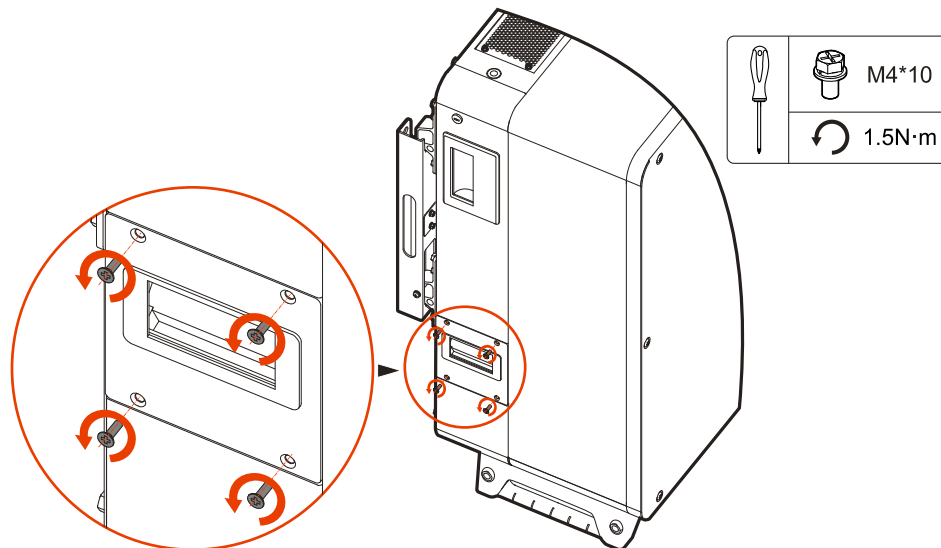

Figure5-1 Loosen the screws of fan cover
Step 2 Loosen the screws of fan module, as shown in Figure5-1.